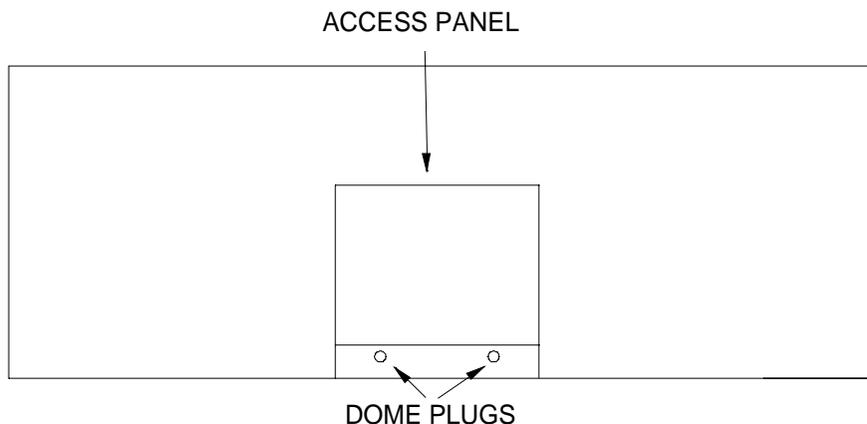

Figure 4 Rear Access Panel
1. Remove the rear access panel and the dome plugs on the plate below the access panel. Figure 4 shows the location of the rear access panel and the dome plugs.